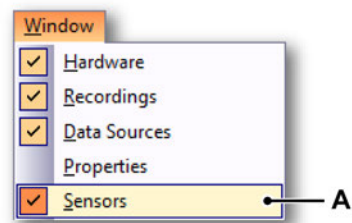

Figure 2.58: Windows menu
- 1 Drag the sensor from the Sensor tree. If the tree is not visible, select **Sensors** in the **Window** menu (see Figure 2.58).